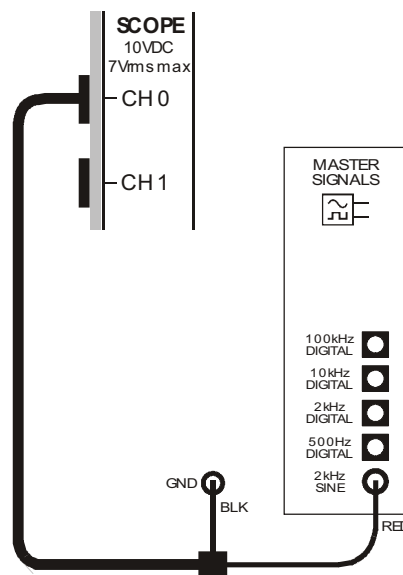

Figure 10
29. Connect the set-up shown in Figure 10 below.